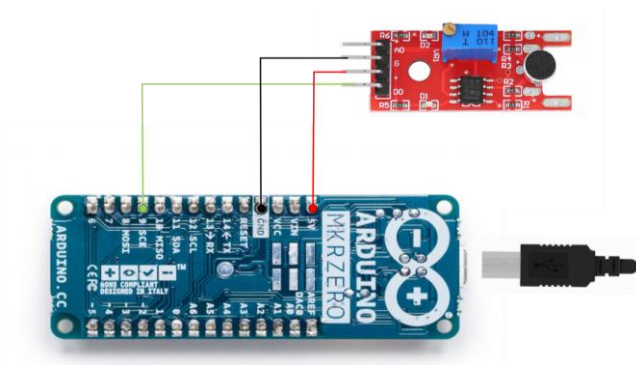

Fig. 4.1. Schematic for sound sensor with Arduino MKR ZERO.
The schematic is given in Fig. 4.1. Step-by-step instructions for building a system for this example are as follows.
- (1) Connect the microcontroller to the PC via USB cable.
- (2) Connect the sound sensor module as shown in the schematic in Fig. 4.1.
- (3) Open Arduino IDE. In Tools>Board choose Arduino MKR ZERO (programming port).
- (4) Copy the code below and upload it to the microcontroller.